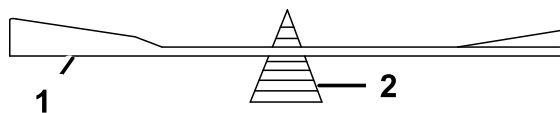

Figure 76
2. Check the balance of the blade by putting it on a blade balancer (Figure 76).